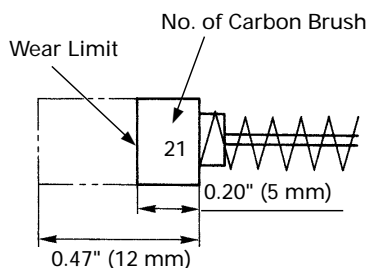

Fig. 8
## 4. Inspecting the carbon brushes (Fig. 8)
**NOTE:** Use HITACHI carbon brush No. 21 indicated in Fig. 8.